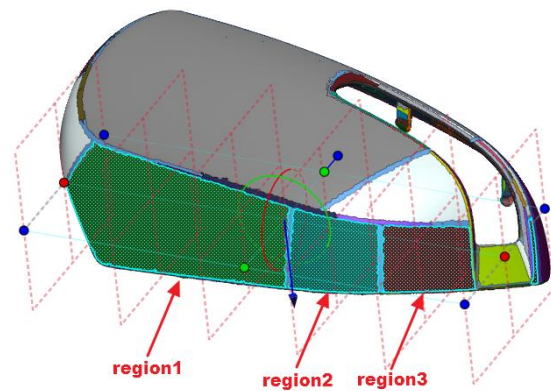

Figure 202
- Choose the three regions, shown in **Figure 202**, as the **Regions/Poly Faces**.